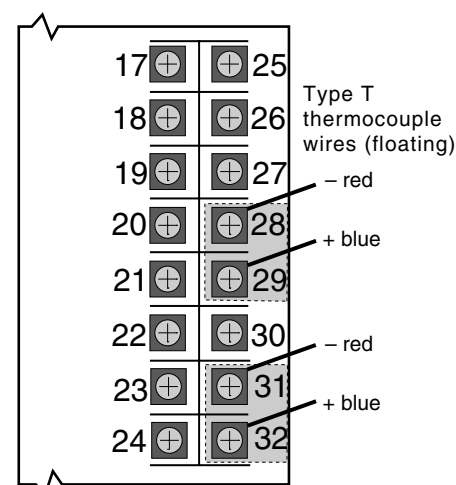

Figure D.5
1. Remove the thermocouple wires (if present) from terminals 28, 29, 31 and 32, and replace them with pieces of wire that will be connected to a 20 milliamp input current (see *Figure D.5*). Make sure terminal screws are securely tightened, but **do not** connect the wires yet (leave inputs floating).
12. Remove the 20mA input from the PV terminals, and attach it to the SP terminals (see Figure D.5).